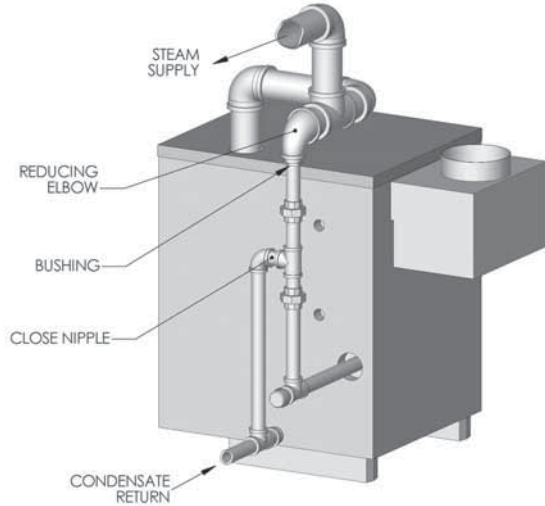

Figure 4.1: Steam Piping – Single Supply Connection
1. Install steam supply pipes as shown in Figure 4.1. The minimum quantity and size of supply pipes are indicated in Table 4.1.
4. Connect the equalizing line as shown in Figure 4.1 assuring that the reducing elbow is facing down and that any bushings are vertical to prevent water build-up in the steam header.